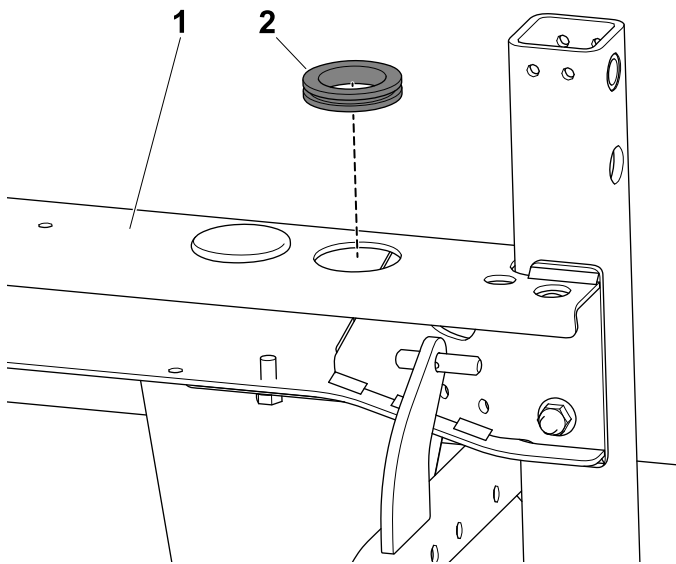

Figure 25
4. Install the grommet to the frame (Figure 25).